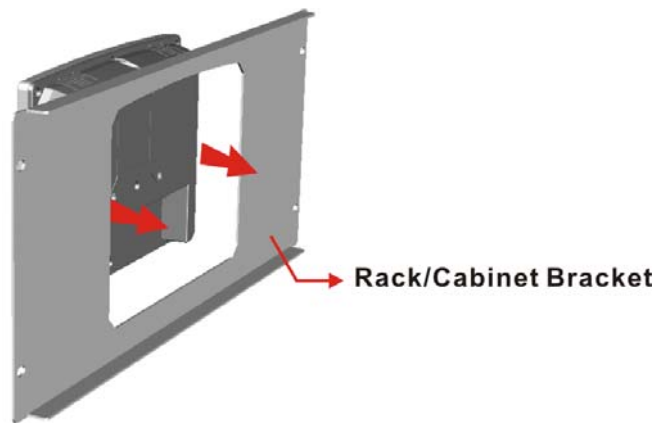

Figure 4-19: The Rack/Cabinet Bracket
Step 1: Slide the rear chassis of the ACT-08A-ATOM through the rack/cabinet bracket until the frame is flush against the front of the bracket (**Figure 4-19**).